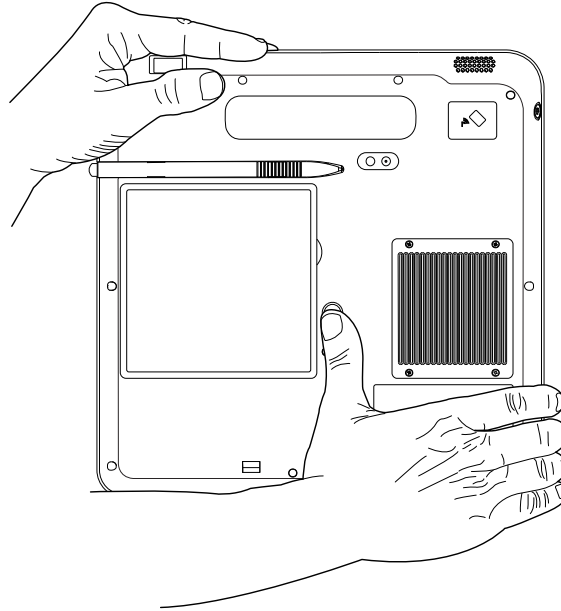

Figure 39. Battery Release button.
2. Press the **Battery Release** button in until you hear a click indicating the battery has been released (Figure 39).